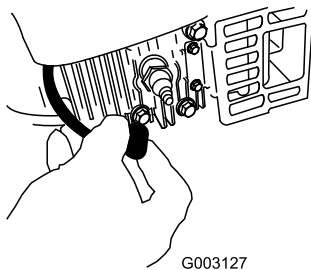

Figure 33
2. Disconnect the spark plug wire from the spark plug and hook it onto the retaining post (Figure 33) before performing any maintenance procedure.